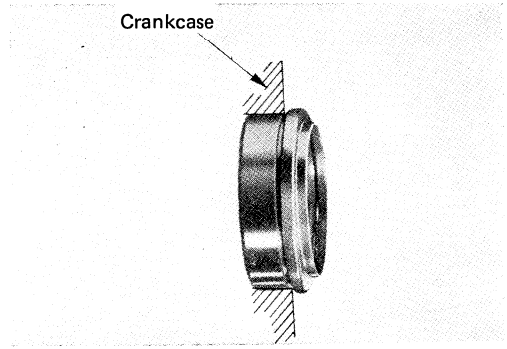

Fig. 5-5-2
B. when fitting the crankshaft left bearing, use the bearing installing tool (special tool No. 09913-70122) so as not to damage the oil guide ring clinched to the bearing. (Fig. 5-5-2)